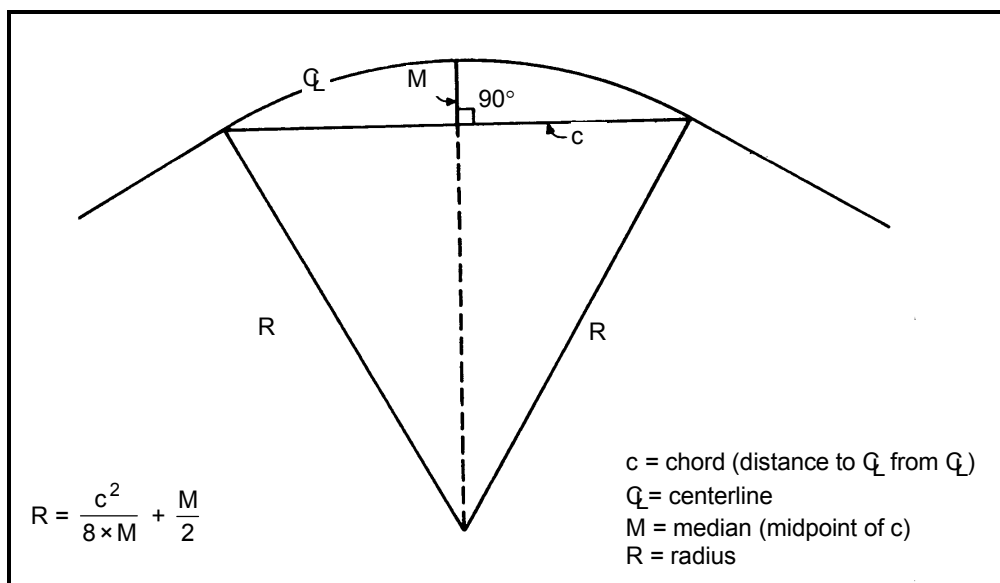

Figure 1-7. Using a Formula to Determine the Radius of Curvature
(2) Another method is to use the radius-of-curvature formula. Refer to the following formula and *Figure 1-7* (Always round your answer down to the next whole number):